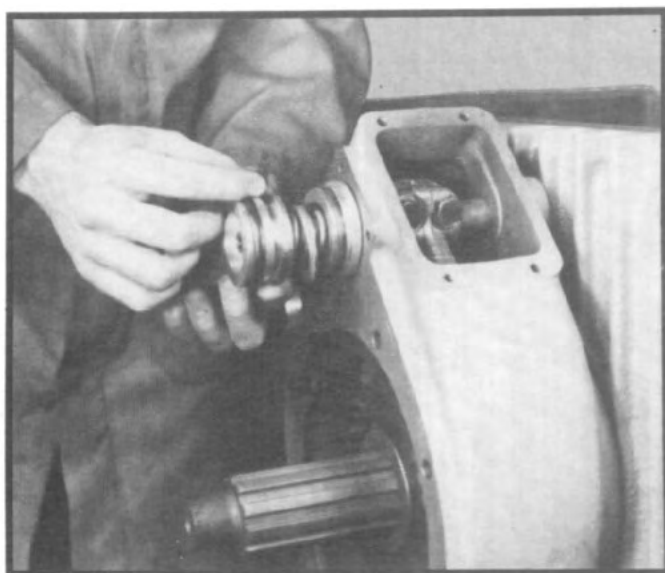
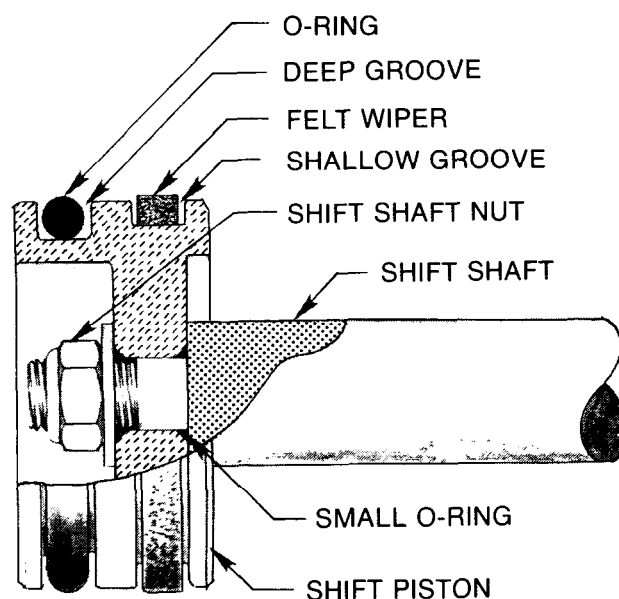

Fig. 168
Fig. 167
11. Place an oil soaked felt wiper in shallow groove on piston and an o-ring into deep groove. (See fig. 168 and fig. 167.)
8. Place piston over threads of shift shaft (depressing spring) with shallower of two grooves facing towards shaft. (See fig. 167)
10. Place an oil soaked felt wiper in shallow groove on piston and an o-ring into deep groove. (See fig. 181 and fig 167.)